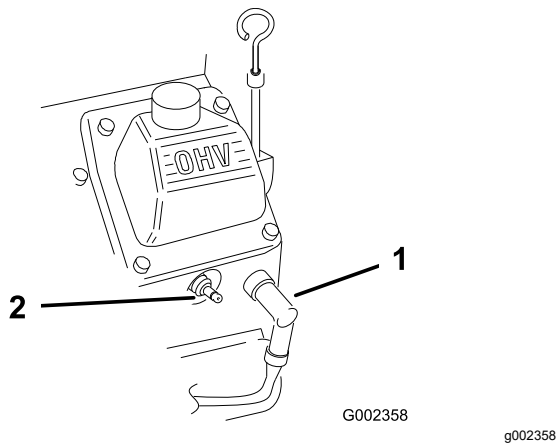

Figure 27
2. Disconnect the spark-plug wires from the spark plugs (Figure 27).
3. Connect the spark-plug wires to the spark plugs (Figure 27).